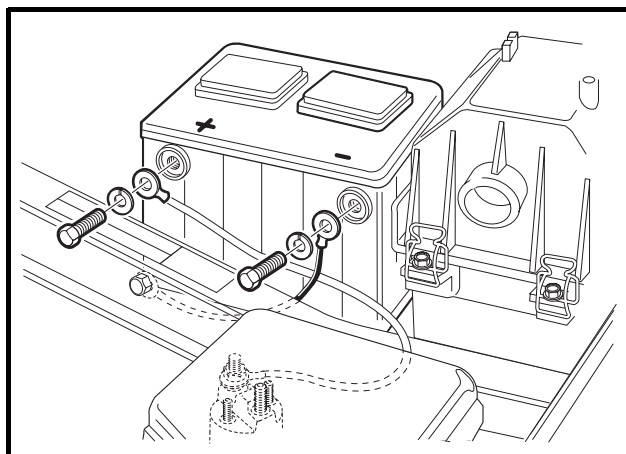

Figure 29 Battery
The battery in a Club Car vehicle is a 12-volt, low-maintenance battery that requires infrequent checks (**Figure 29**). Electrolyte level should be checked semiannually.
4. Use a flat blade screwdriver, and carefully remove the battery cell caps from the battery (**Figure 29**). **See following WARNING.**